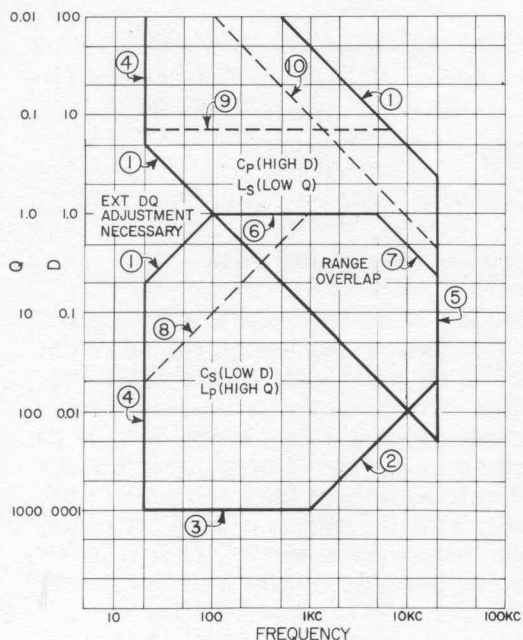

Figure 14. DQ Ranges vs Frequency. (Refer to paragraph 6.4.)
C and L readings, the D or Q of the unknown is further limited. The resulting allowable D and Q ranges are given in terms of frequency and D or Q of the unknown at the measurement frequency in Figure 14.
6.6 EXTENDING THE D AND Q RANGES AT LOW FREQUENCIES. The wide overlap of ranges (see Figure 14) permits D and Q coverage down to 100 cps without external adjustment. Below 1 kc, more of the low D and high Q range may be used than is calibrated. In this region, the low Q scale may be used to indicate D directly and the high D scale used to indicate Q directly with a maximum additional error of 2%.
Below 100 cps there is a D and Q range not covered by the internal DQ adjustment. An external rheostat or decade box may be used to extend the range of any of the D or Q scales. (However, to avoid error, the low D and high Q ranges should not be extended beyond a value of 1 at frequency of measurement (see Figure 14).
6.7 OPERATION ABOVE 20 KC. Although the specifications for the Type 1650-A certify performance up to only 20 kc for ac measurements, the bridge can be used with accuracy only somewhat reduced up to 100 kc. At frequencies above 20 kc, limits other than those shown in Figure 14 restrict the accuracy attainable with the bridge. These limits can be stated as a percent error, which should be added to the basic one-percent accuracy given in the instrument
\*below line 10 in Figure 14